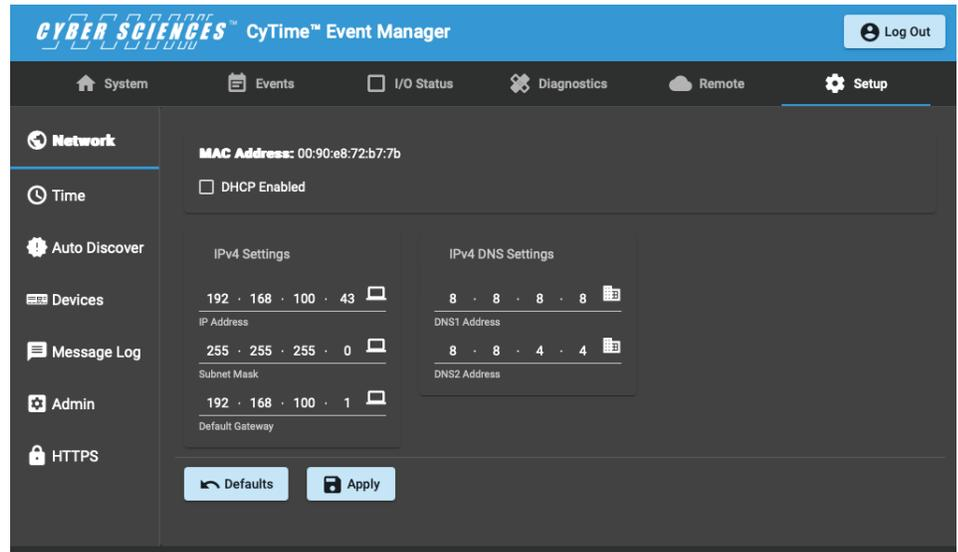

Figure 8. Setup Page
7. Navigate to the ‘Setup’ page (Figure 8). Here you will set up the network. Click the ‘Network’ tab on the far left of the Setup page (Figure 10). Enter the IP credentials of your network, and hit ‘Apply’. The CyTime Event Manager will then re-boot. Once the unit has re-booted, then log into the unit with the existing IP address again, or the NEW IP address if you’ve just programmed a new IP address into the unit.